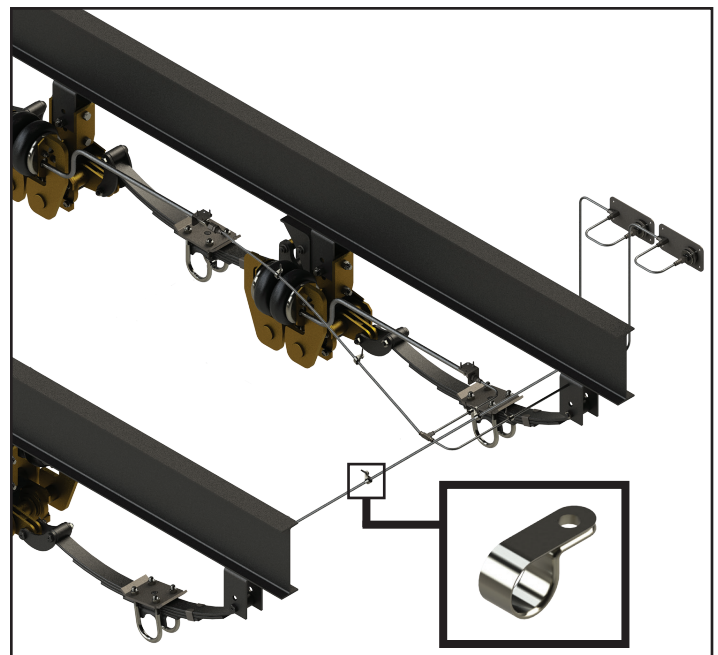

Fig.12
7. After choosing a sufficient location for the clips (**Fig.12**), use the self-tapping screws provided to attach the poly air hoses into the clips, to the inner frame rail flange.